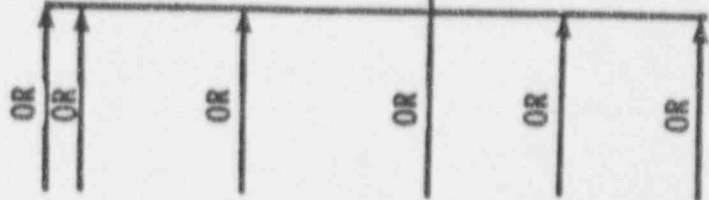

FIGURE 2 - REACTOR COOLANT SYSTEM (RCS) INTEGRITY
5.1.2.2 Use Figure 2 to determine if the reactor coolant system is breached or challenged. Enter yes or no as applicable on Data Sheet 1, part 1b.
- b. Reactor Coolant System Integrity (See Figure 2) YES \_\_\_ NO \_\_\_